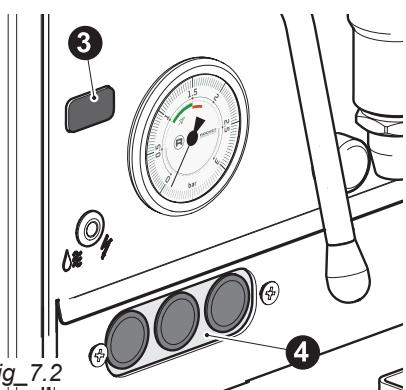

fig. 7.2
Through the Oled Display on the front of the machine (3 - fig. 7.2) it is possible to consult the status of the machine and program various functions with the three buttons (4).